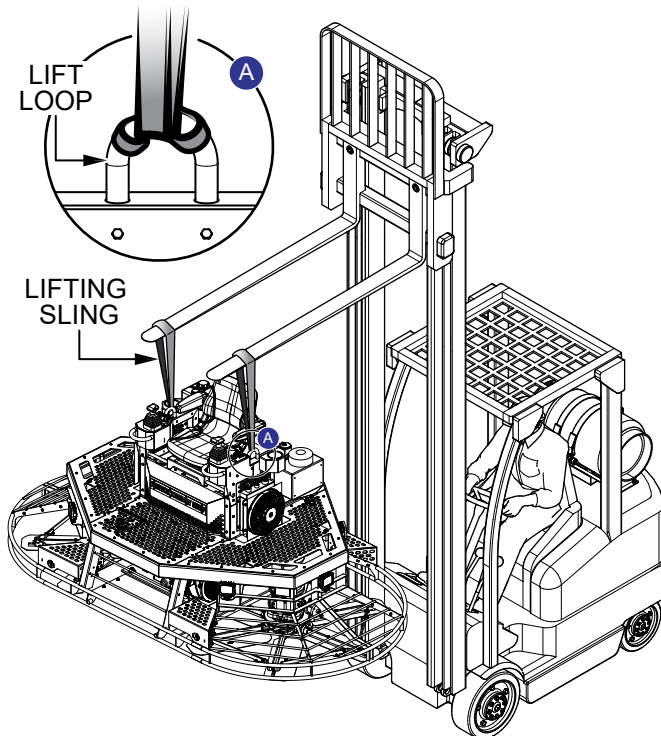

Figure 2. Lifting The Trowel (Lift Loops)
1. Secure the **lifting slings** to the **lift loops** (Figure 2), located to the left and right of the operator's seat.